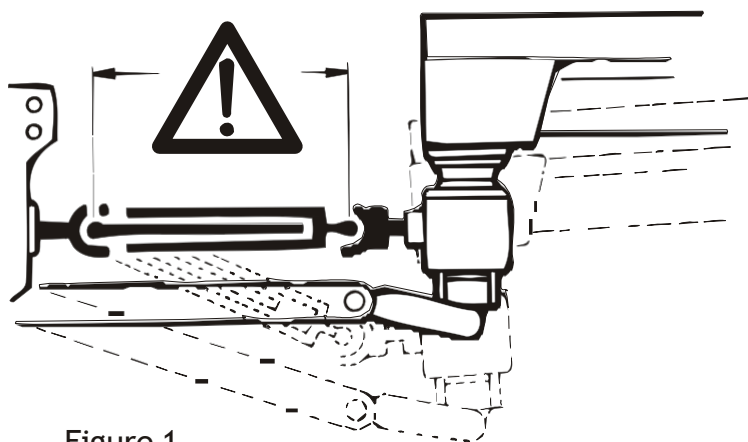

Figure 1
1. Determine the shortest length of the shaft by lifting the machine (Figure 1).